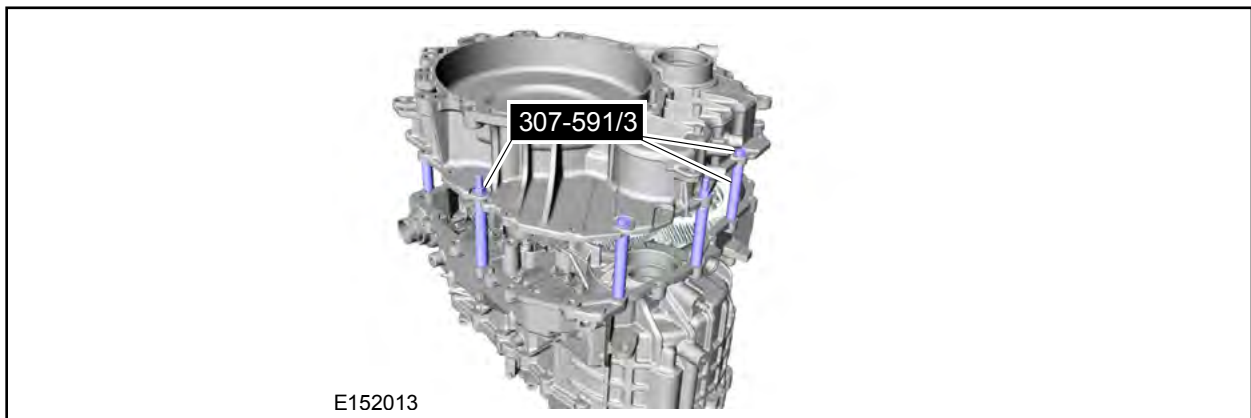

FIGURE 25
20. Install the nuts on the studs. See Figure 25.